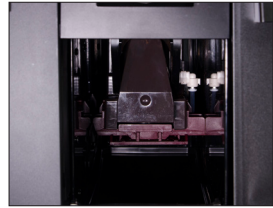

Figure 1
- * Use one hand to reach under the brewing unit into the shaft, undo the lock and hold (Figure 1)